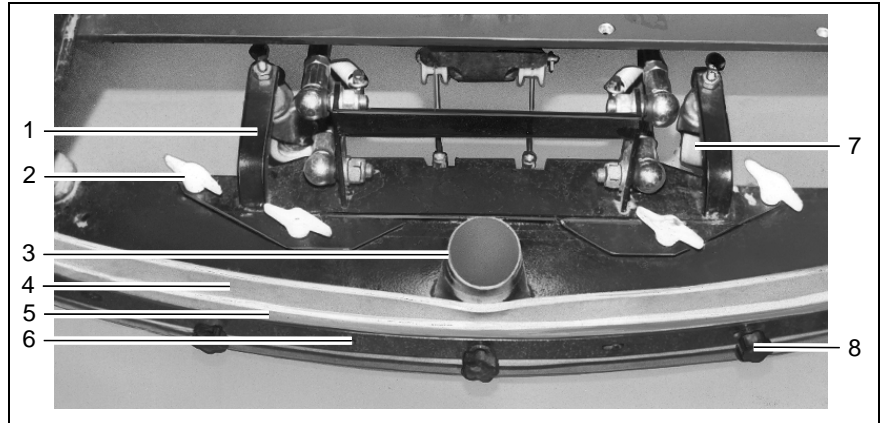

Fig. 34
5. Pull the suction hose from the connection nozzle (Fig. 34/3) of the squeegee.
6. Loosen the wing nuts (Fig. 34/2) on the holding attachment.
The sealing strips (Fig. 34/4) can be changed without the need for any tools:
2. Unscrew the knurled nuts (Fig. 34/8).
3. Remove the sealing strip, support strip and clamping rail (Fig. 34/4-6).
5. Tighten the knurled nuts (Fig. 34/8) evenly, starting from the center and working on alternate sides.
The squeegee stands with the sealing strips (Fig. 34/4) and support rollers (Fig. 34/7) on the ground. To increase the squeegee contact surface of the sealing strips (Fig. 34/4) on the floor, e.g. following wear of the sealing strips (Fig. 34/4), the support rollers (Fig. 34/7) must be set higher:
3. Adjust the support rollers (Fig. 34/7) on the right and left evenly:
5. Tighten the counter-nuts on each support roller (Fig. 34/7).